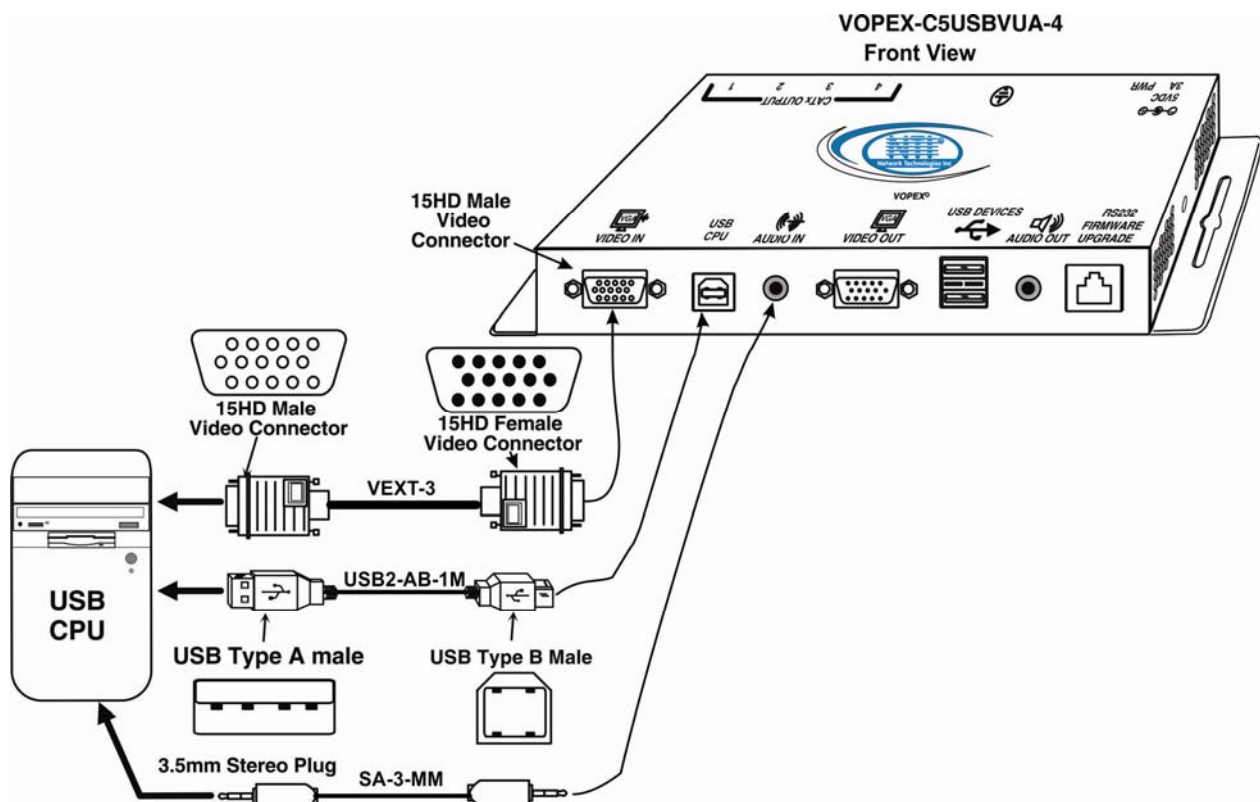

Figure 1- Connecting the VOPEX to a PC
1. Make connections between the VOPEX and the CPU. (See Fig. 1.)